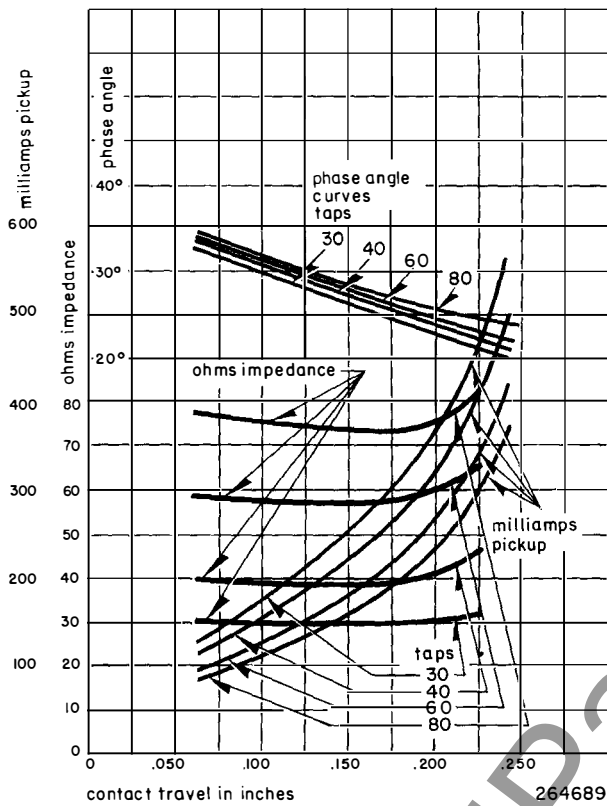

fig. 37: LC-1 characteristic curve.
It should be noted, however, that the relay impedance is not constant, but varies with relay current as indicated in figures 37 and 39. Therefore, in using equation (3) it is desirable to assume a value of relay impedance equal to the impedance tap and make a first calculation of the relay current. When this is obtained, a new value of relay impedance should be selected from figure 37 or 39 and a second value of relay current calculated. Usually, it will not be necessary to continue the calculation any further, as
Reference to figure 37 indicates that the relay can be set to operate at .102 (or 0.100 ampere) on either the 60 ohm or 80 ohm tap. Since the desired value is near the minimum obtainable, choose the 60 ohm tap as being the closest match to the value of 57.8 for N Z_c and make a second more accurate calibration. Using the 60 ohm tap and a contact travel of .075 inches. Values read from the curve give a pickup current I_r = 0.100; Z_r = 58.3 ohms, and an impedance angle of 33° for Z_r.